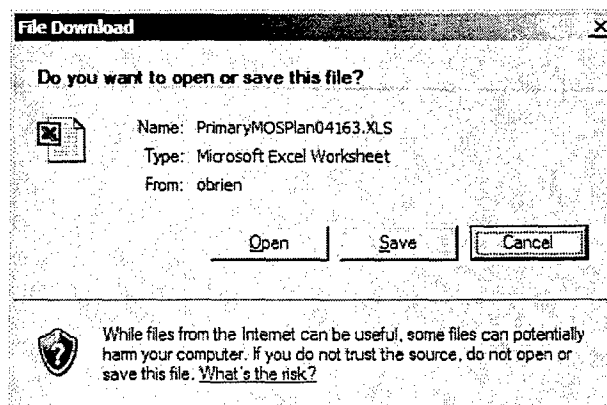

Figure 60. Export Primary MOS Report to Excel
- You can export the Primary MOS report to a Microsoft Excel workbook by clicking the *Export to Excel* button at the top of the page. The Dialog Box displayed in Figure 60 shows that the workbook is automatically named using the convention *PrimaryMOS&Planname.XLS* (e.g., *MultExampleTest.XLS*). You may either open the workbook directly or save the workbook to a local or remote (network drive).